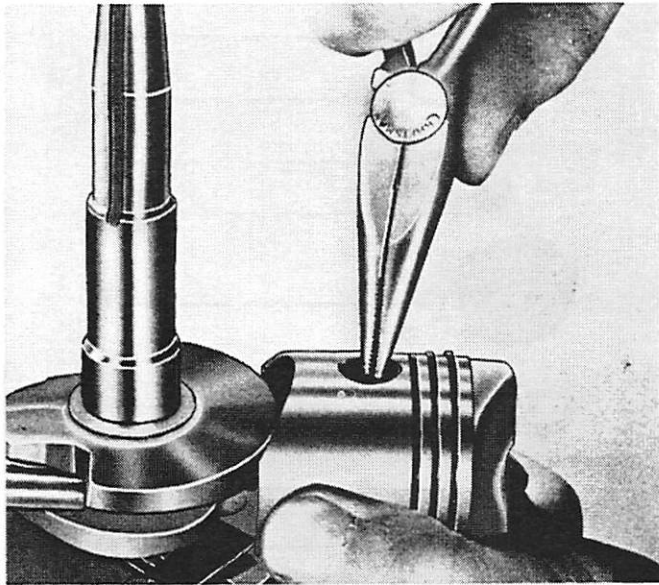

Figure 8. Removing (and Installing) Piston Pin Lock Ring
piston pin with long nose pliers. Turn counter-clockwise and pull. (Figure 8)
9. Set tip of lock in groove and, with long nose pliers, push lock in and turn counterclockwise (to left) to seat. (Figure 8)